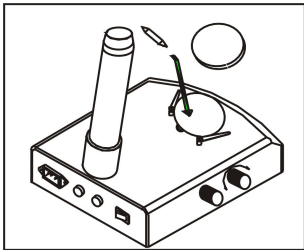

Fig. 11
- 4) Recover the stage plate. (Fig.11)